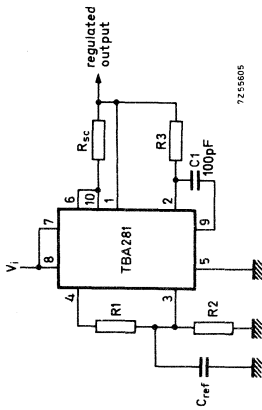
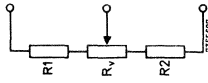

Fig. 1 1)2)
Fig. 3 2)
(for testcircuit see figs. 1, 2 and 3 on page 5)
2) For adjustable output voltage replace R_1/R_2 in fig. 1 and 2 with divider circuit shown in fig. 3.
Outputs from +2 V to +7 V (fig. 1) $V_o = V_{ref} \times \frac{R_2}{R_1 + R_2}$
¹⁾ For adjustable output voltage replace R₁/R₂ in fig. 1 and 2 with divider circuit shown in fig. 3 (on page 5).